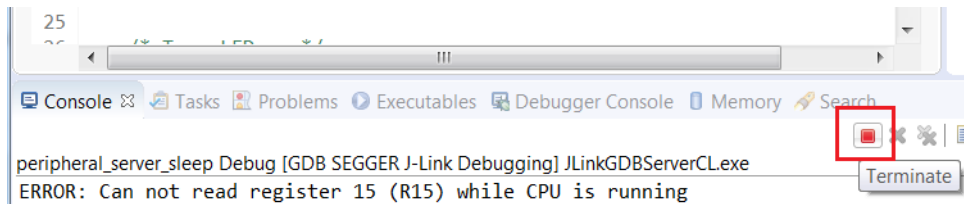

Figure 52. Terminate Targets Icon
7. Stop the debug session and click on the Terminate icon to remove all terminated targets (see Figure 52).